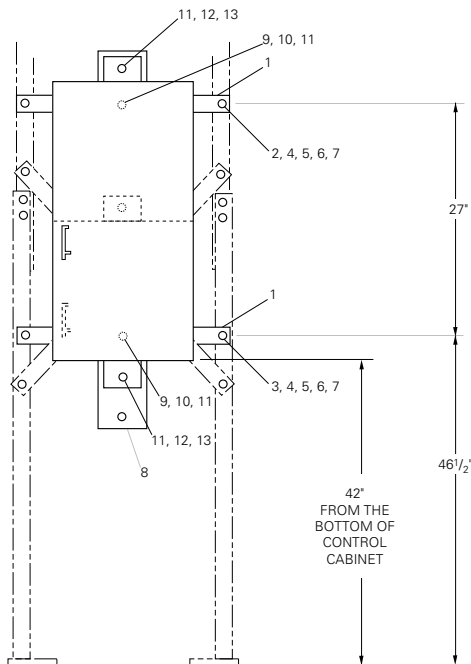
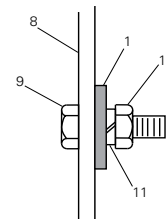
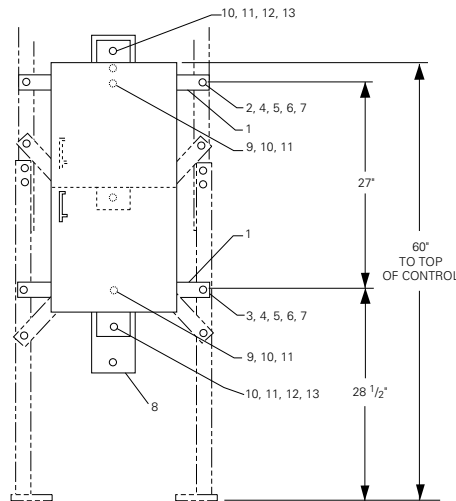

Figure 15. Control mounted on end of frame at 42-inch height (KA89WV10).
Figure 17. Hardware assembly for mounting the vertical control support strap (Substation Frame Accessory KA89WV10).
Figure 19. Control mounted at 60-inch height (KA89VV10).
Refer to Figure 15 and Table 9. Mounting accessory KA89WV10 locates a standard single-sized or a double-sized control cabinet at a 42-inch height (from the bottom of the cabinet to the mounting pad) with a basic frame height of 99 1/4 inches or higher.
4. Connect the control strap (Item 8) to the upper horizontal support strap through the second hole from the top, as shown in Figure 15, with cap screw (Item 9), lockwasher (Item 11), and hex nut (Item 10) as shown in Figure 17.
5. Connect the bottom half of the control strap to the lower horizontal strap using the same hardware combination shown in Figure 17.
To mount the recloser control to the control support strap, locate the top mounting hole for the control cabinet being used. The lower mounting point is the same for both single and double-sized cabinets. Refer to Figure 15.
Refer to Figure 19 and Table 9. For all basic frame heights, accessory KA89VV10 will mount the control at a 60-inch height (from top of the control cabinet to the mounting pad).
3. Locate the vertical control support strap (Item 8) so that the hole measuring 1-3/8 inches from the end is at the top. Connect the control strap to the upper horizontal support strap through the third hole from the top, as shown in Figure 19, with cap screw (Item 9), lockwasher (Item 10), and hex nut (Item 11). Connect bottom half of the control strap to the lower horizontal strap using the same hardware combination (Figure 17).